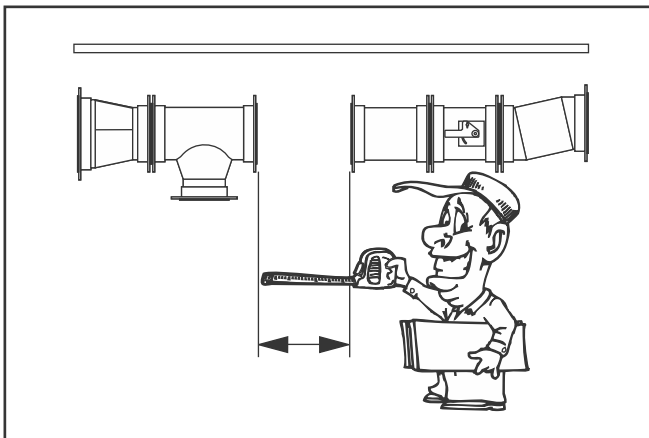

Fig. 18: Measure for modification
1. Measure The Duct: Measure the installation for the desired duct section length. (Fig. 18) Transfer this measurement to the duct section to be shortened. Add 3/8" to the measured length to allow for the flange height. Mark this measurement in several places around the duct circumference. Connect these marks using a marking pen and flexible ruler.